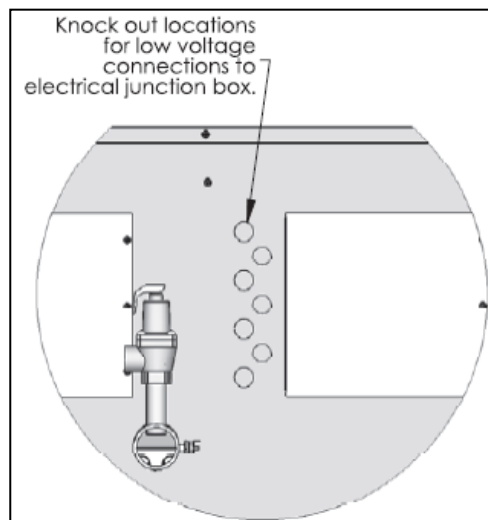

Figure 27
1. All low voltage cables should enter the electrical junction box through the provided knock out holes shown in Figure 27.